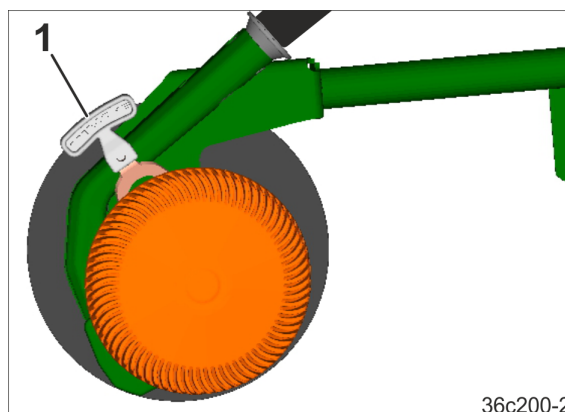

Fig. 177
2. Insert the shoulder of the depth control disc/wheel into the required hole. The lever (Fig. 177/1) is used to actuate the depth control disc/wheel.